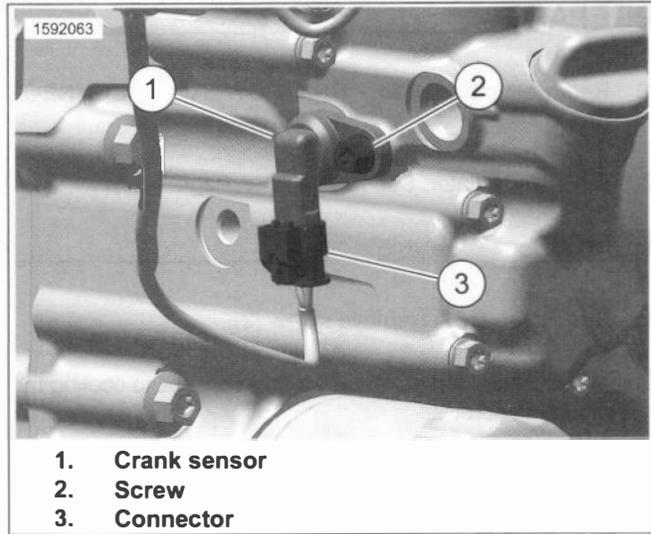
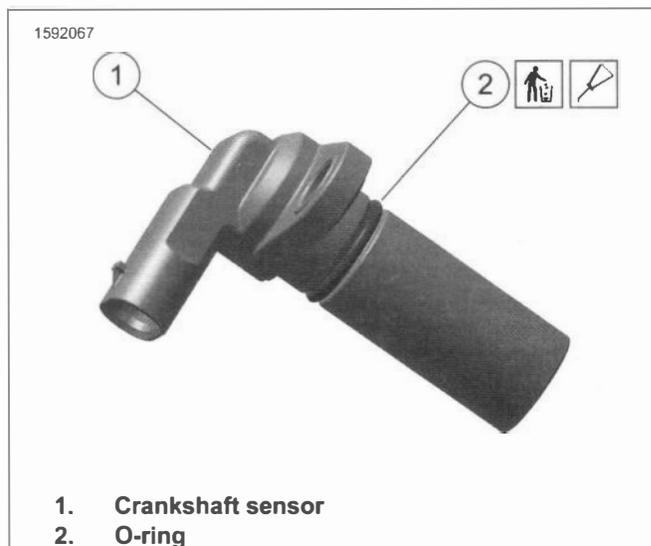

Figure 8-58. Crankshaft Position (CKP) Sensor
Figure 8-59. CK Sensor Assembly
1. See Figure 8-58. Disconnect CKP connector (3).
- a. Remove screw (2).
- b. Remove sensor (1).
2. See Figure 8-59. Discard o-ring (2).
1. See Figure 8-59. Lubricate **new** o-ring with clean engine oil.
2. Install o-ring (2) on CKP (1).
3. See Figure 8-58. Install sensor (1).
4. Install screw (2). Tighten.